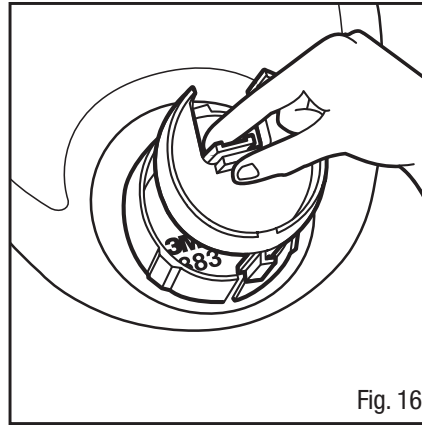

Fig. 16
2. Squeeze the locking tab at the back of the air director 6881 and pull back to disengage from the DIN port base 6883 (Fig. 16).
5. Align the lug at the bottom of the air director 6881 with the slot at the bottom of the DIN port base 6883 (Fig. 16). Slide forward and press the center knob until the locking tab clicks into place.